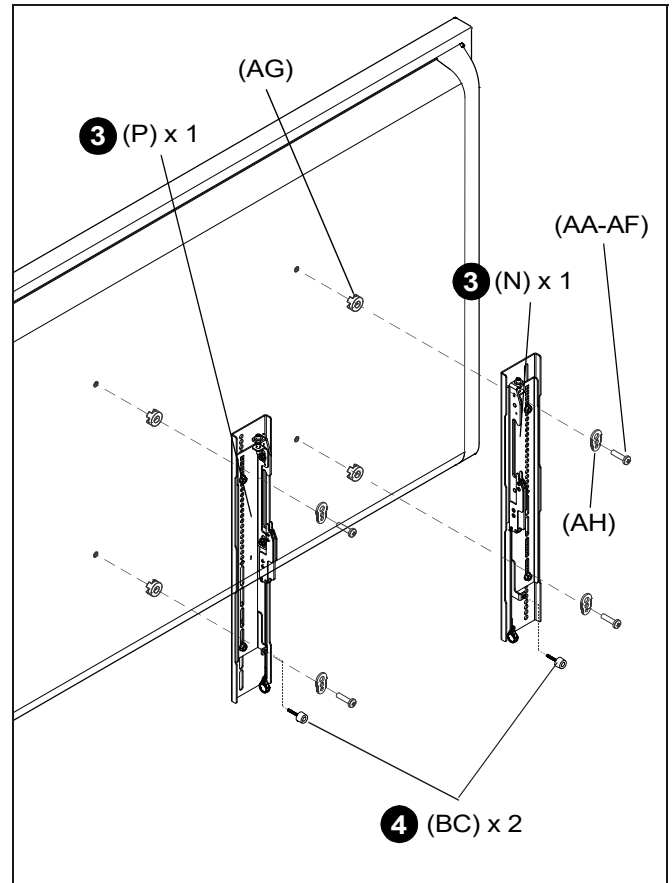

Figure 27
- Align the center of the interface brackets (N/P) with center of screen. (See Figure 27)
- Select correct screws (AA-AF), spacers (if necessary) and universal washers (AH) from the hardware bag and attach brackets (N/P) to back of screen. (See Figure 27)
- Install two bumpers (BC) to the left (P) and right (N) interface brackets. (See Figure 27)